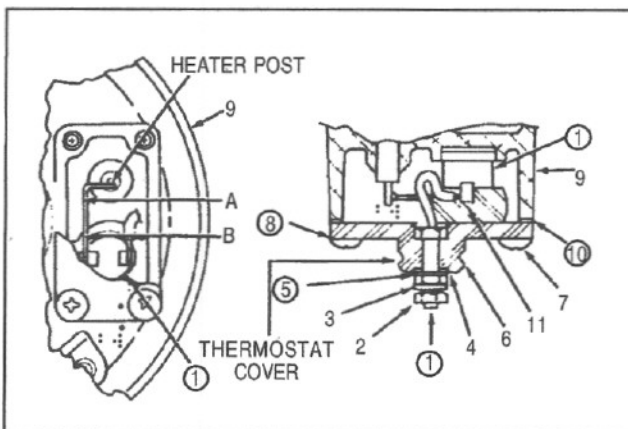

FIGURE 17
NOTE: If during the serviceability checks it was determined that the thermostat was defective, use the following procedure. It is not necessary to replace this unit each time the end cover is rebuilt. Use thermostat kit. (See Figure 17)
9. Remove nut(2), then lockwasher(3), plain washer(4) and o-ring(5). Discard o-ring and retain other parts.
10. Remove and retain four Phillips head screws(7) and cover(6).
13. Cut uninsulated thermostat wire at Point B. (Figure 17), remove and discard thermostat and terminal assembly(1).
16. Cut uninsulated lead of new thermostat(1) at Point A (Figure 17).
19. Install thermostat terminal(1) in cover(6).
20. Install o-ring(5), washer(4), lockwasher(3) and nut(2). Torque nut to 20-30 inch pounds.
21. Install spacer(11) over thermostat(1).
22. Install gasket(7) and cover(6) and secure cover to end cover(9) using screws(7) and lockwashers(8).
- A. At a temperature above 85°F. check resistance between thermostat terminal(1) and end cover(9). Resistance should be 200,000 ohms or greater; if not, check for solder "path" short.